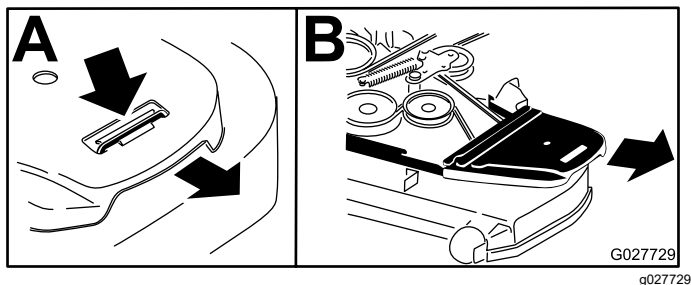

Figure 69
4. Remove the belt covers (Figure 69).